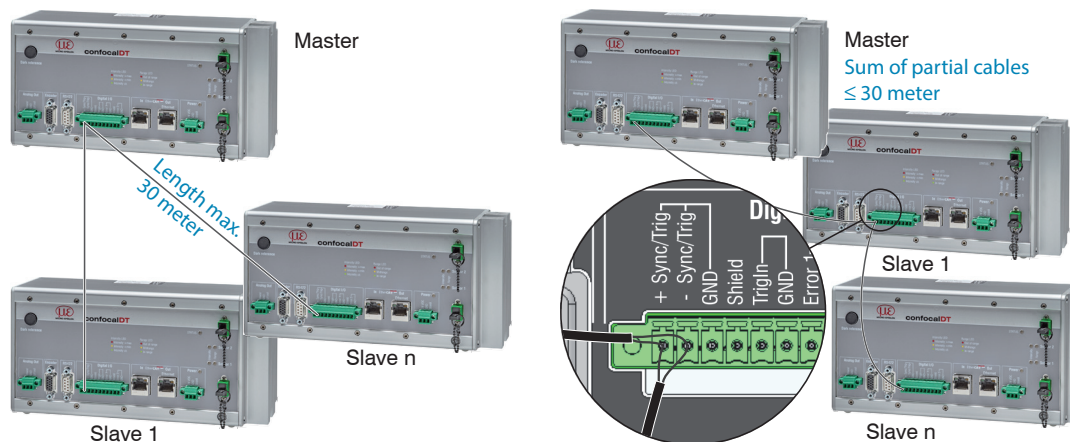

Fig. 16 Synchronization of more controllers, star synchronization (left), cascaded (right)
- ➡ Connect the pins +Sync/Trig and -Sync/Trig of controller 1 (master) in star configuration with the pins +Sync/Trig and -Sync/Trig of controller 2 (slave) to controller n, in order to synchronize two or more controllers, see Fig. 16.
- ➡ Connect the pins +Sync/Trig and -Sync/Trig of controller 1 (master) with the pins +Sync/Trig and -Sync/Trig of controller 2 (slave 1). Connect the pins of downstream controllers in order to synchronize two or more controllers, see Fig. 16.